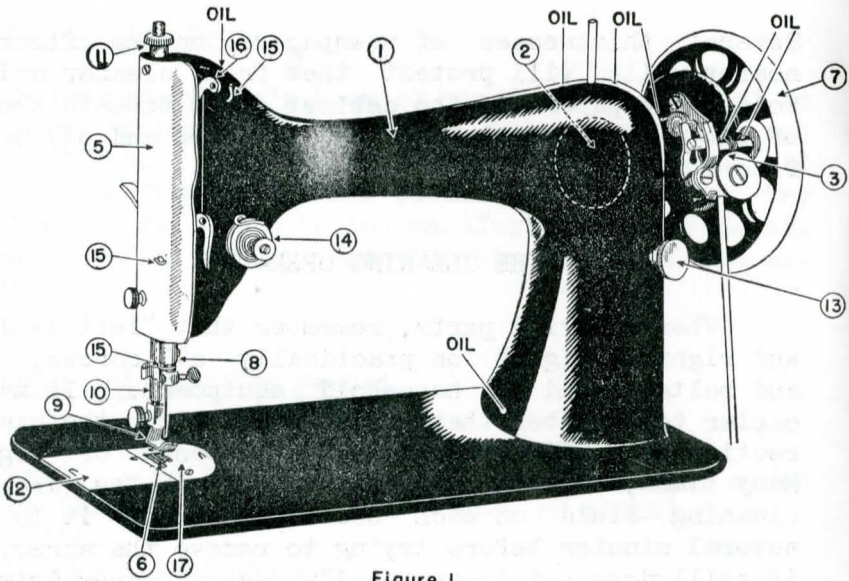

Figure 1
1. Remove spool of thread, bobbin, and rubber friction bobbin-winder ring (Figure 1). Put in machine drawer or lay them aside out of the way, where they will keep clean and not become soiled with oil or cleaner. The motor and wires of electrically driven machines should be covered to protect them from cleaning fluid and oil.
3. Remove and put in pie tin the following parts: Presser foot, slide plate or plates, bobbin case, throat plate or needle plate, armplate, or cover plate or plates, and the faceplate (Figures 1 and 2).
With large darning needle, ice pick, or some other sharp-pointed instrument, clean out all oil holes (Figures 1 and 2). Then run the machine, and at the same time squirt cleaning fluid into all oil holes, on all bearings, and on all other places where one part rubs against or turns within another. Don't be afraid to use plenty of fluid.